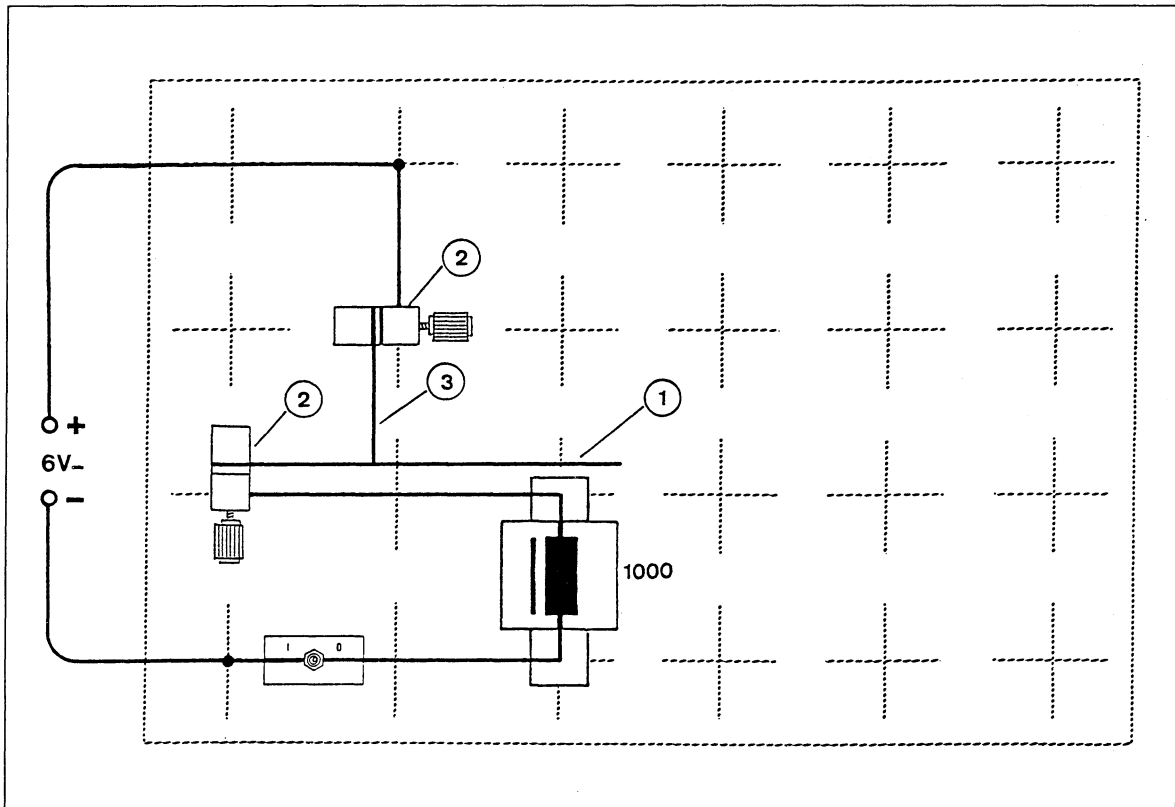

Fig. 1 Experiment setup (top view): model of a buzzer
1. Set up the circuit as shown in Fig. 1. The switch should be in the open position (position 0).